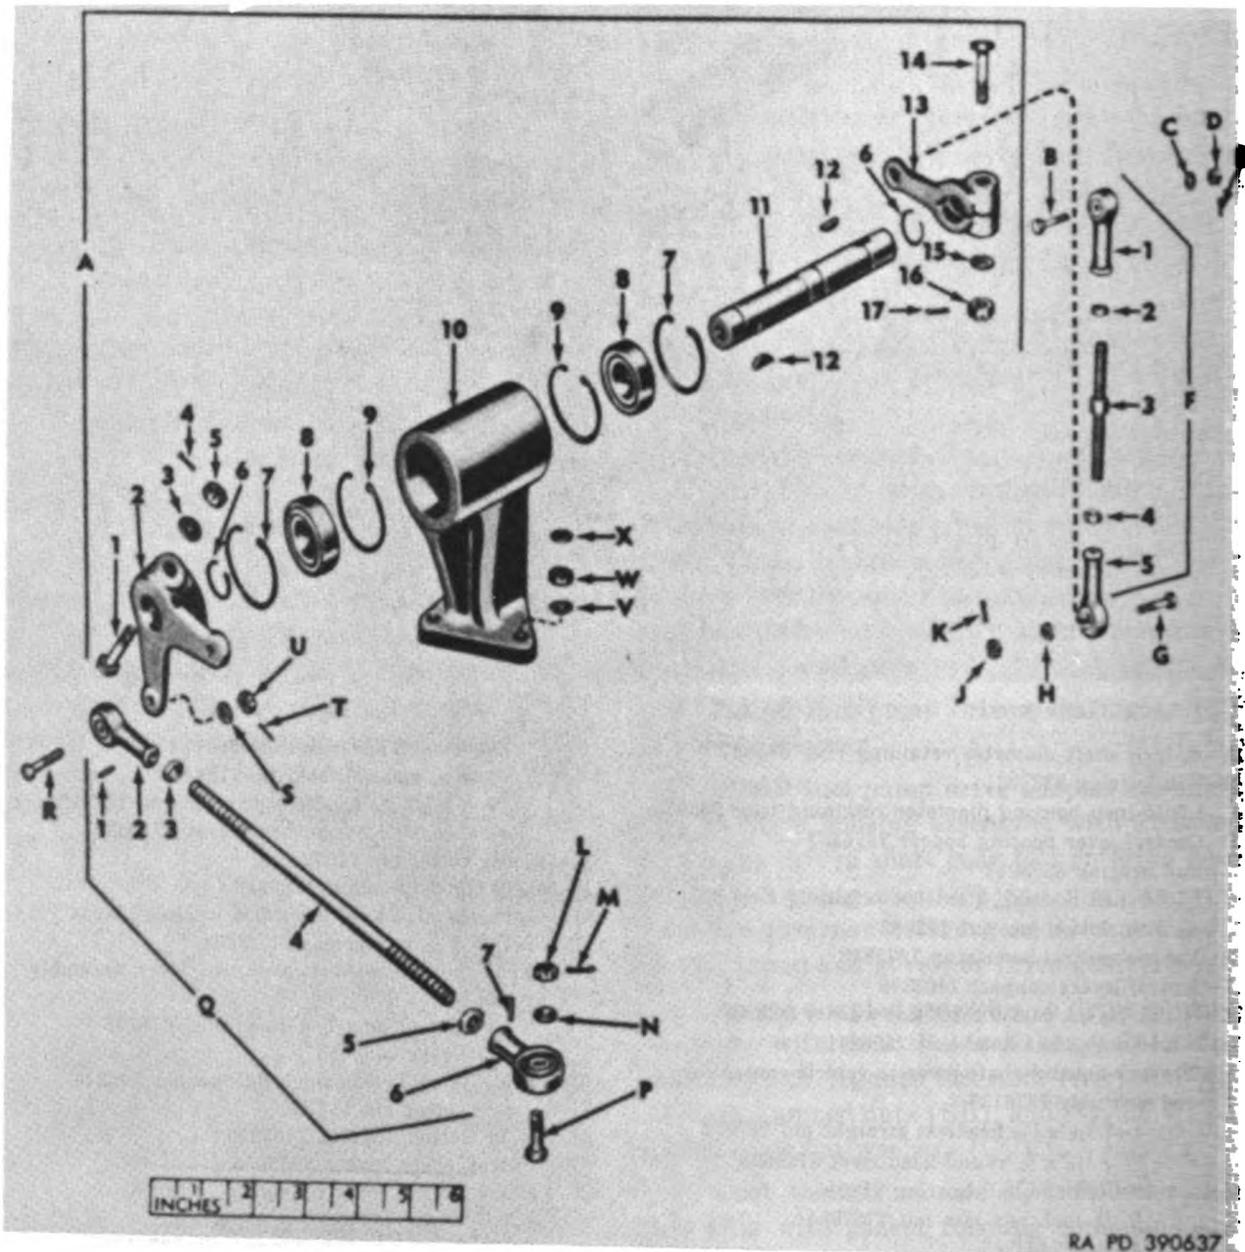

Figure 133. Throttle and governor control linkage—exploded view.
- (2) Do not remove two rod end ball bearings (M-2 and M-6) from rod (M-4) unless inspection (par. 142) indicates replacement is necessary. To remove bearings, drill headless straight pins or round-head rivets (M-1 and M-7) from bearings and rod, loosen hex jam nuts (M-3 and M-5), and unscrew ball bearings from rod. Remove hex jam nuts.
- (3) Unhook ends of control levers spring (W) from grooves in stepped pins (S-1 and X-2) and remove spring.
- (4) Remove retaining ring (A) from groove in shaft of control levers support (J) and slide vehicle control lever assembly (X), control lever bearing spacer (D), and vehicle-control-to-throttle-control lever assembly (S) from shaft of control levers support.
- (5) Remove two ball bearings (B) from bore of vehicle control lever assembly (X) using a suitable bearing puller. Remove two retaining rings (C) from grooves in bore.
- (6) Remove two ball bearings (E) from bore of vehicle-control-to-throttle-control lever assembly (S) using a suitable bearing puller. Remove retaining ring (F) from groove in bore.
**NOTE:** The key letters shown below in parentheses refer to figure 133.
- (1) Remove cotter pin (T), slotted hex nut (U), flat washer (S), and hex-head bolt (R) securing injector-control-shaft-to-throttle-shaft rod assembly (Q) to control-shaft-to-vehicle-control lever (A-2). Remove rod assembly.